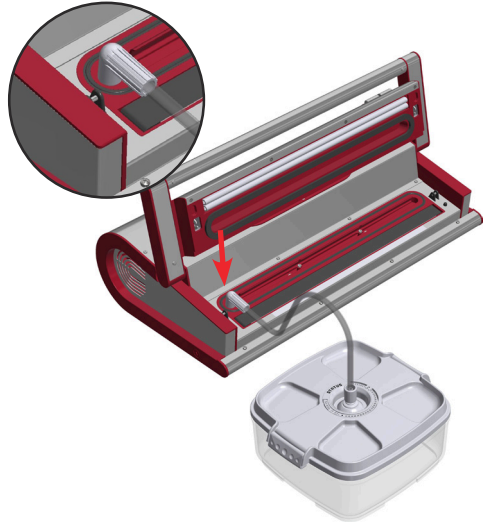

Figure 9: Marinating process.
- b.) Connect it to the container for marinating (see Figure 9).